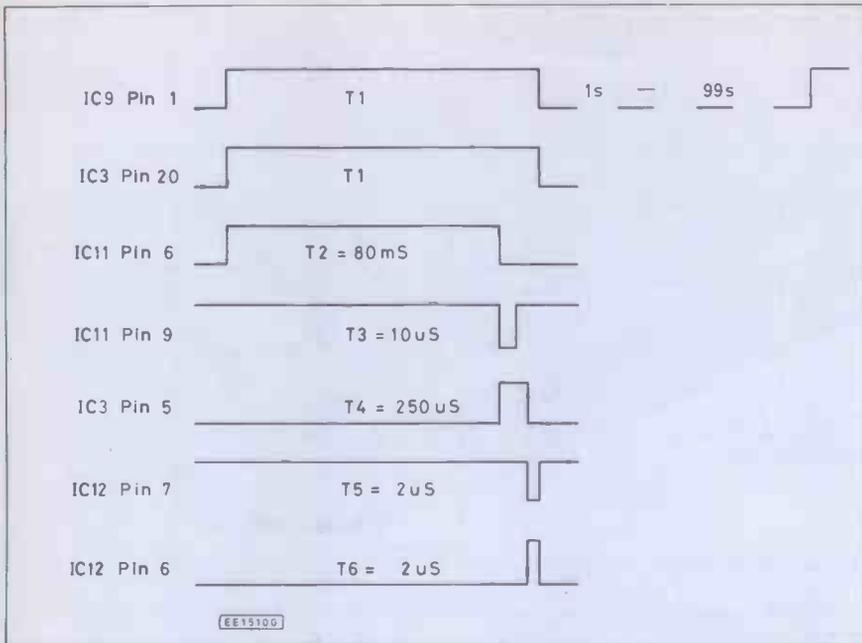

Fig. 2. Timing diagram of the Data Logger.
Looking at the timing diagram in Fig. 2 the output of IC9 Q output is shown in trace (1) as T1. This Q output is connected to the positive edge triggered input of the monostable, IC11a, and through R6 to the base of the transistor TR1 which is the power switch for the ADC. Thus when the Q output goes high, the transistor is switched on and powers the ADC as shown in (2) of the timing diagram. As a visual indication of this "on-time", the l.e.d. (D3) is also powered during time period T1. The timing components C3 and R5 connected to pins 1 and 2 of the monostable give a timing period of 80mS, shown as T2 in line (3) and this provides a delay to allow the ADC time to power up properly before it is required to do a conversion.
In order for the ADC to begin a conversion, it is necessary for CS and WR to be low. CS is held low by resistor R17 and when WR is driven low by the 10µS negative going pulse from the monostable IC11b, a conversion begins and INT goes high. At the end of the conversion period, the INT output of the ADC goes low and triggers monostable IC12a. This monostable whose period is determined by C6 and R12, creates timing periods T5 and T6, traces (6) and (7) in Fig. 2. The pulse from Q drives the RD input of the ADC low and causes it to output data on the data bus.